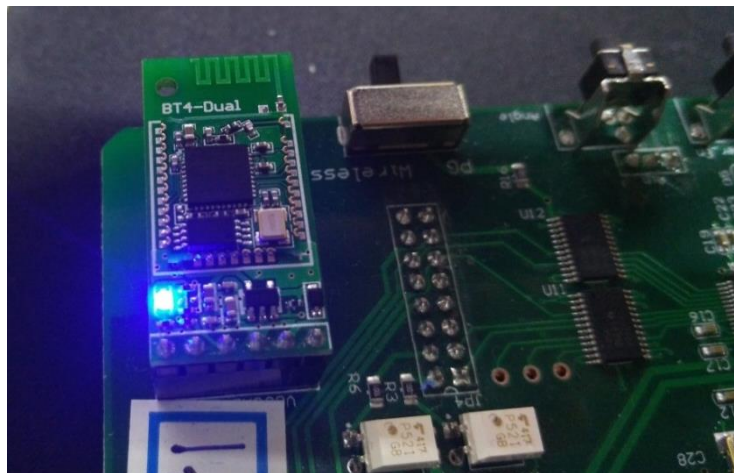

Figure 3 Power Up with command mode enabled
2. Insert the Bluetooth module into the right area of the Dobot Controller after the pads are connected, as shown in Figure 3.